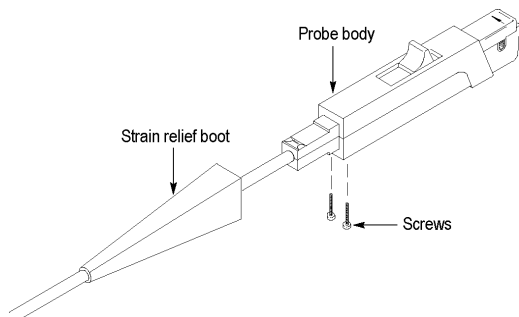

Figure 23: Removing the Strain Relief Boot
1. Remove the two screws from the bottom of the probe and pull the strain relief boot back. (See Figure 23.)